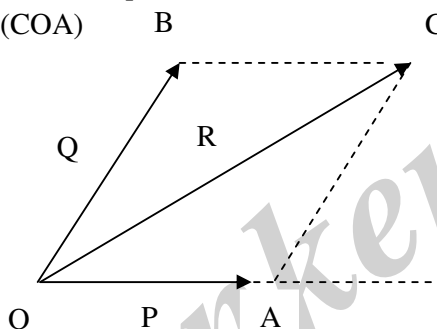

Figure 1
b) Two forces P and Q are acting at a point O as shown in Figure 1. The force  $P=250\text{N}$  and force  $Q=120\text{N}$ . If the resultant is equal to  $350\text{N}$  then find the value of the angles  $\alpha$  (BOA),  $\beta$  (BOC), and  $\gamma$  (COA)